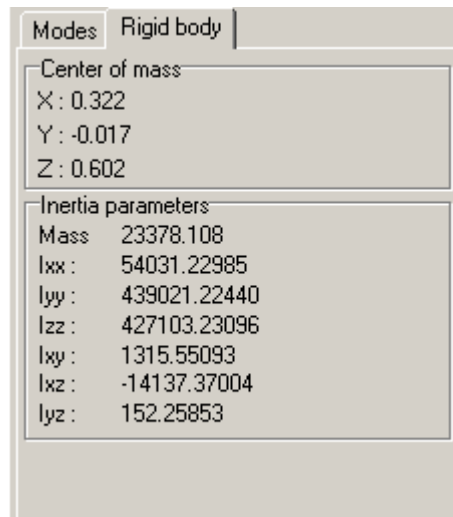

Figure 11.10.
- The **Rigid body** tab (see Fig. 11.10) shows information about position of center of gravity, mass and moments of inertia of the flexible subsystem.